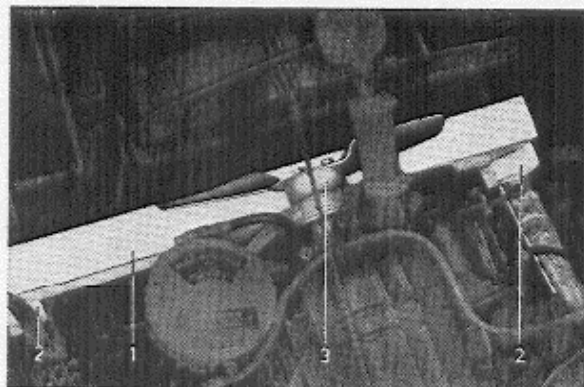

Fig. 10. Engine support
7. Screw off the nuts at the front engine mountings. Remove the front engine guard plate. Place a wooden block (1, Fig. 10, size about $62 \times 6 \times 6$ cm = $24 \frac{1}{2} \times 2 \frac{1}{2} \times 2 \frac{1}{2}$ ") above the support members but under the fan hub (3). Insert the wooden block from below. In addition, on P 210 two blocks (2, size $4 \times 6 \times 6$ cm = $1 \frac{1}{2} \times 2 \frac{1}{2} \times 2 \frac{1}{2}$ ") should be placed between the frame and the above-mentioned wooden block. On late production models a recess must be made in the block. If the vehicle is not to be moved and an overhead hoist is available, the engine can be suspended in this instead.